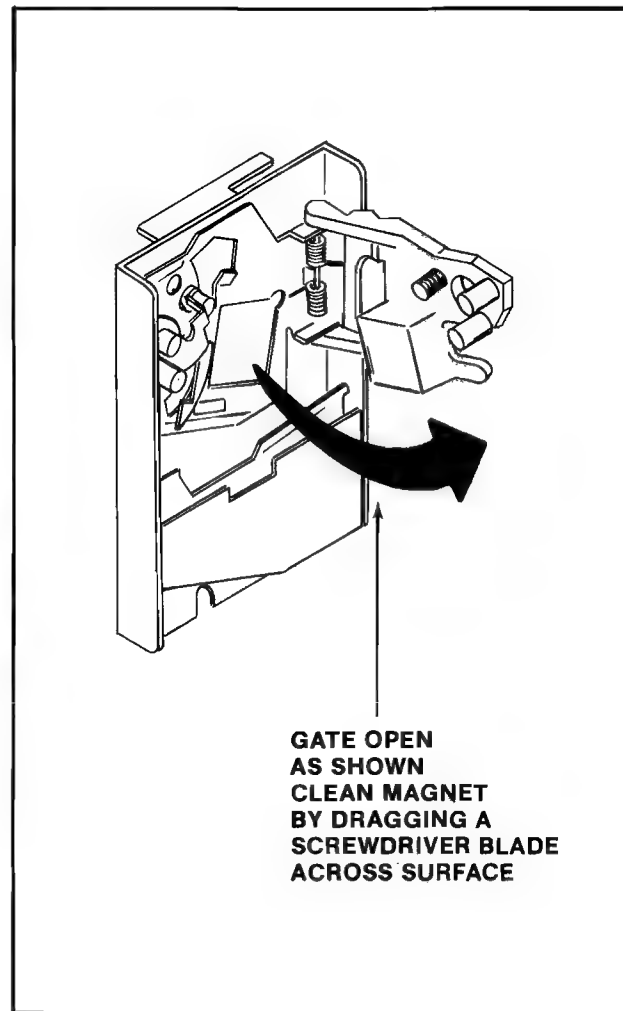

Figure 33 Opening the metal coin acceptor
4. Clean the magnet of all foreign particles. See Figure 33.